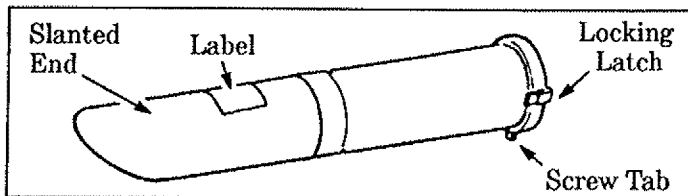

Figure 2
**NOTE:** The Lower Vacuum Tube is cut at an angle. Make sure the Label on the Lower Vacuum Tube is aligned on the opposite side of the Screw Tab on the Upper Vacuum Tube (shown in Figure 2).
2. Slide vacuum tubes together. Figure 2.